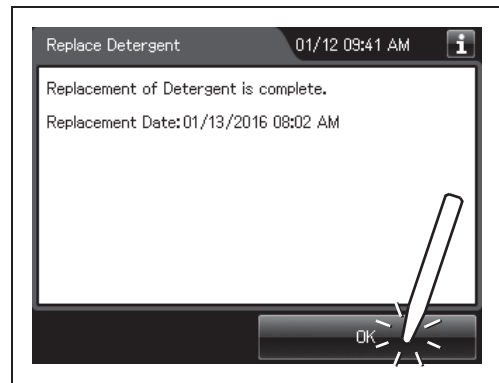

Figure 8.54
- 6 Check the displayed lot number and the expiration date, and press the “Next” button. Then, press the “OK” button. For detail of GUI, refer to Figure 8.54.